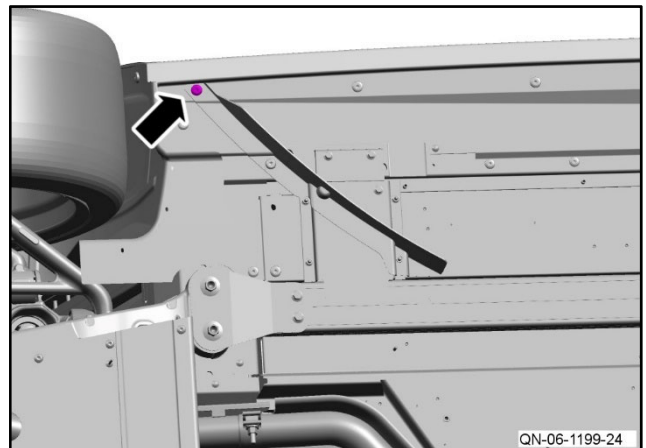

Figure 32
- 31** Install and torque the screw that attaches the right side aero fence to the vehicle body to 5 Nm (refer to Figure 32).